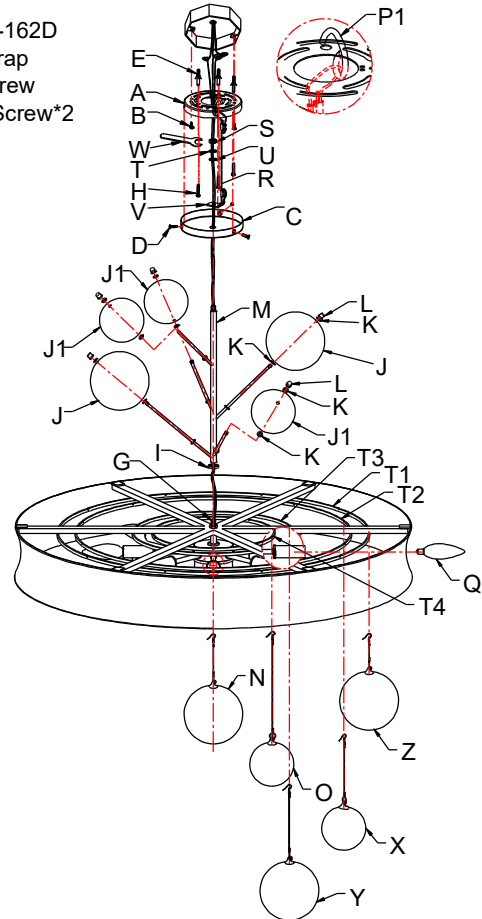

Fig. 4
CONNECTING THE WIRES (Fig. 4)
9. Connect the electrical wires as shown in figure 4, making sure that all wire connectors are secured. If your junction box has a ground wire (green or bare copper), connect the fixture's ground wire to it. Otherwise, connect the fixture's ground wire directly to mounting plate (A) using the green screw provided.
- Connect the electrical wires as shown in figure 4, making sure that all wire connectors are secured. If your junction box has a ground wire (green or bare copper), connect the fixture's ground wire to it. Otherwise, connect the fixture's ground wire directly to mounting plate (A) using the green screw provided.